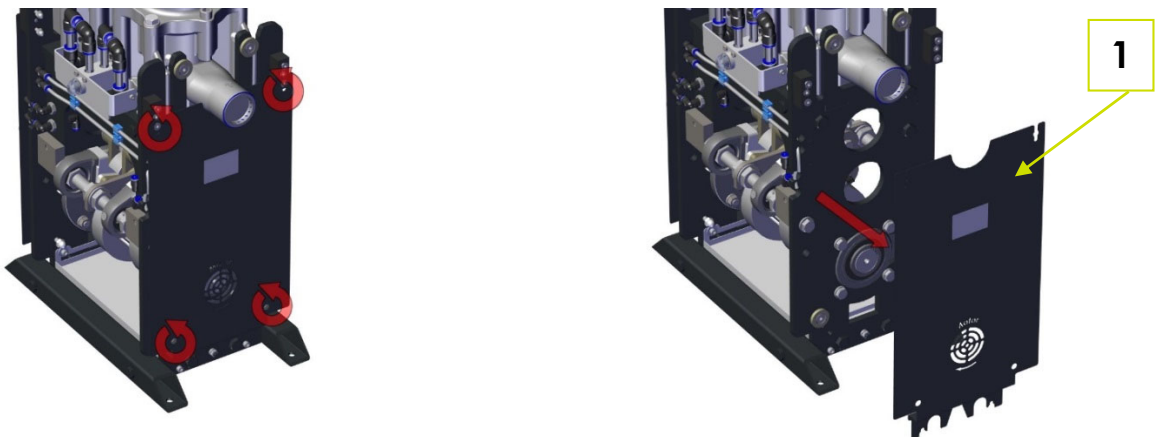

Fig. 4-7: Removing the connection cover
1. On the front (Fig. 4-7: Removing the connection cover) of the Piston pump unscrew the two upper hexagon socket screws M6x50, 5 turns using a 4 mm Allen key (↻).
2. On the front (Fig. 4-7: Removing the connection cover) of the Piston pump completely unscrew the two lower hexagon socket screws M6x50 using a 4 mm Allen key (↻).
3. Remove the connection cover (1) in the direction of the arrow (Fig. 4-7: Removing the connection cover).